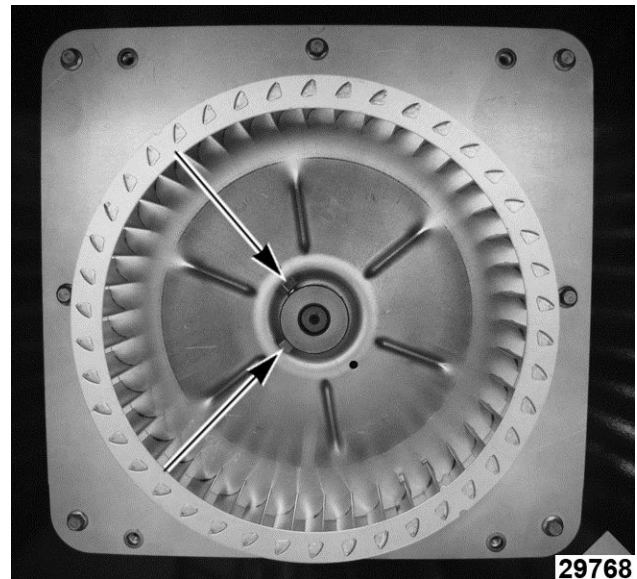

Fig. 22
2. Tighten set screws (Fig. 22) on blower hub.